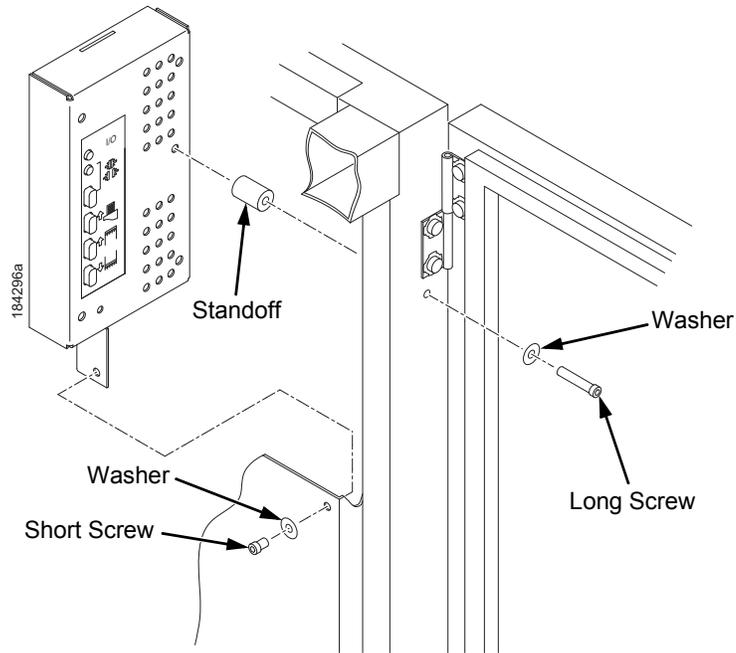

Figure 11. Removing the Stacker Control Panel
13. Remove two screws, washers, and the standoff from the stacker control panel. (Figure 11.)